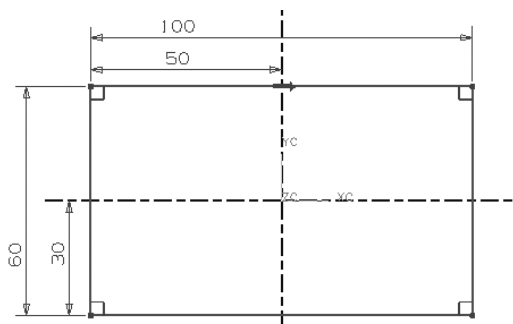

Figure 8-48 Sketch for the base feature
- Draw the sketch for the base feature and extrude the same, refer to Figures 8-48 and 8-49.
1. Choose the **Sketch** button from the **Form Feature** toolbar; the **Sketch Icon Options** are displayed. Select the **XC-YC Plane** as the sketching plane and create the sketch for the base feature, as shown in Figure 8-48.